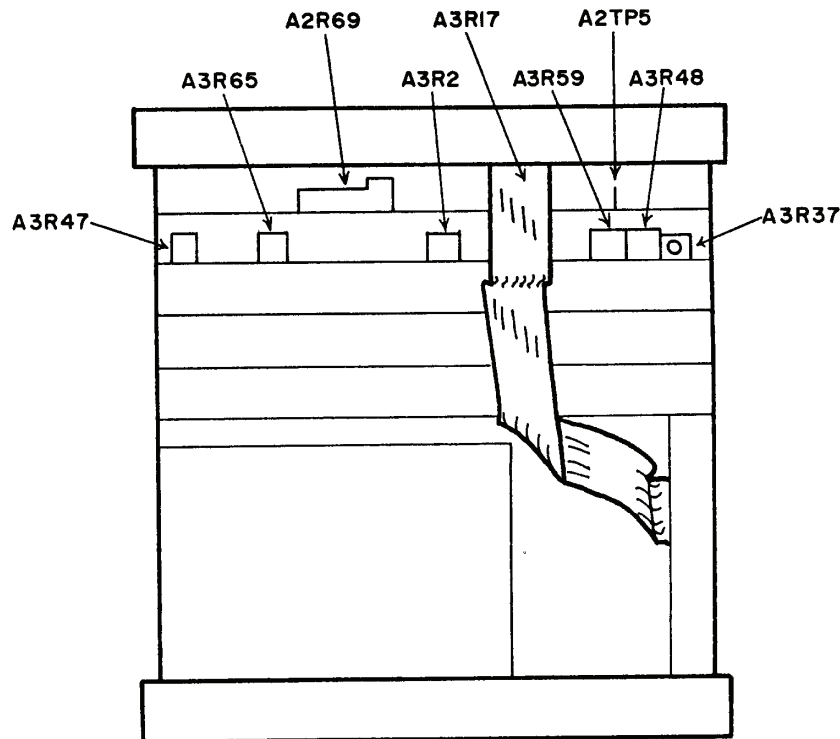

Figure 1. Models 436A and 436AOPT9/22 - adjustment locations.
(1) Set range calibrator **RANGE** switch to **100 mW** and **FUNCTION** switch to **CALIBRATE**. Verify that TI autoranges to 100 mW range, then set the **RANGE HOLD** pushbutton to on (in).
(2) Set range calibrator **FUNCTION** switch to **STANDBY**.
(3) Adjust **DC OFF** potentiometer A3R2 (fig. 1) for a digital readout of **00.0** with a blinking minus sign (R).
- (4) Set **RANGE HOLD** pushbutton to off (out).
- (5) Verify that TI autoranges to 10 μW range.
- (6) Press and hold **SENSOR ZERO** pushbutton and adjust **ZERO OFF** potentiometer A3R47 (fig. 1) until digital readout indicates **0.00** with blinking minus sign (R).
- (7) Set range calibrator **FUNCTION** switch to **CALIBRATE** and **RANGE** switch to **100 μW** .
- (8) Adjust TI front-panel **CAL ADJ** control until digital readout indicates **100 μW** .
- (9) Press and hold **SENSOR ZERO** pushbutton and adjust **BAL** potentiometer A3R65 (fig. 1) until display readout indicates **60.0 μW** (R).
- (10) Set range calibrator **FUNCTION** switch to **STANDBY**. Press **SENSOR ZERO** pushbutton and wait for digital readout to stabilize.
- (11) Press **SENSOR ZERO** pushbutton and wait for display readout to stabilize. Release **SENSOR ZERO** pushbutton and wait for **ZERO** light to extinguish.